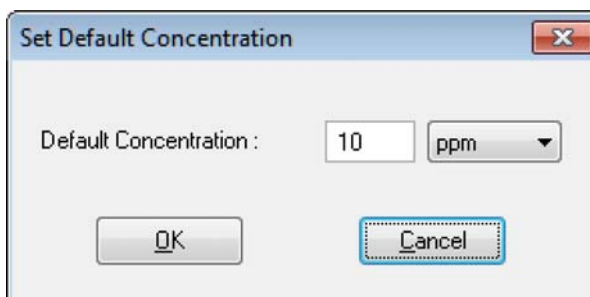

Figure 6-30. Set Default Concentration dialog
5. In the **Standards** view, click **Default** to open the **Set Default Concentration** dialog, see Figure 6-30.